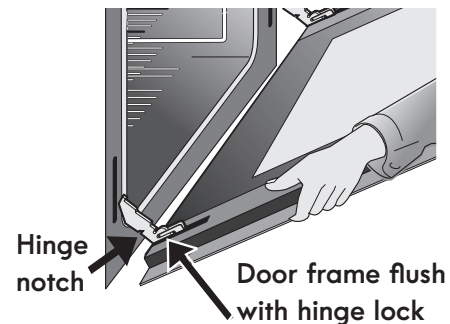

Figure 42: Remove door position
4. Pull the bottom of the door toward you while rotating the top of the door toward the appliance to completely disengage the hinge levers (Figure 42).
1. Firmly grasp both sides of oven door along the door sides. Do not use the oven door handle (Figure 42).
2. Hold the oven door at the same angle as the removal position. Carefully insert the hinge levers into the oven frame until you feel the hinge levers are seated into the hinge notches. The hinge arms must be fully seated into the hinge notches before the oven door can be fully opened. (Figure 42).